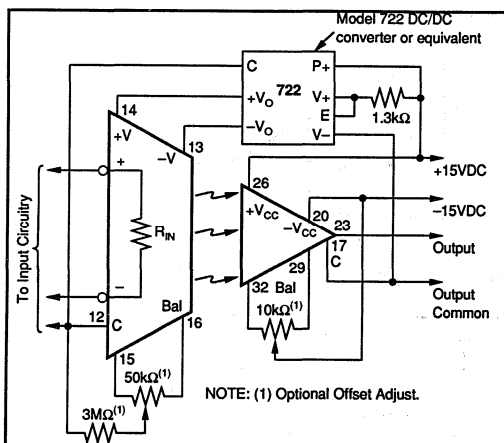

FIGURE 5. Power and Offset Adjust Connections.
The power supply connections for the 3650 and 3652 are shown in Figure 5. When a DC/DC converter is used for isolated power, it is placed in parallel with the isolation barrier of the amplifier. This can lower the isolation impedance and degrade the isolation-mode rejection of the overall circuit. Therefore, a high quality, low leakage DC/DC converter such as the Burr-Brown Model 722 should be used.
The offset nulling circuits are identical for the 3650 and 3652 and are shown in Figure 5. The offset adjust circuitry is optional and the units will meet the stated specifications with the BAL terminals unconnected. Provisions are available to null both the input and output stage offsets. If the amplifier is operated at a fixed gain, normally only one adjustment will be used: the output stage (10k Ω adjustment) for low gains and the input stage (50k Ω adjustment) for high gains, (>10).
NOTE: (1) The offset adjustment circuitry and power supply connections have been omitted for simplicity. Refer to Figure 5 for details. (2) IMRR here is in $\mu A/V$, typically 5pA/V at 60Hz and 1pA/V at DC.
NOTE: (1) The offset adjustment circuitry and power supply connections have been omitted for simplicity. Refer to Figure 5 for details.